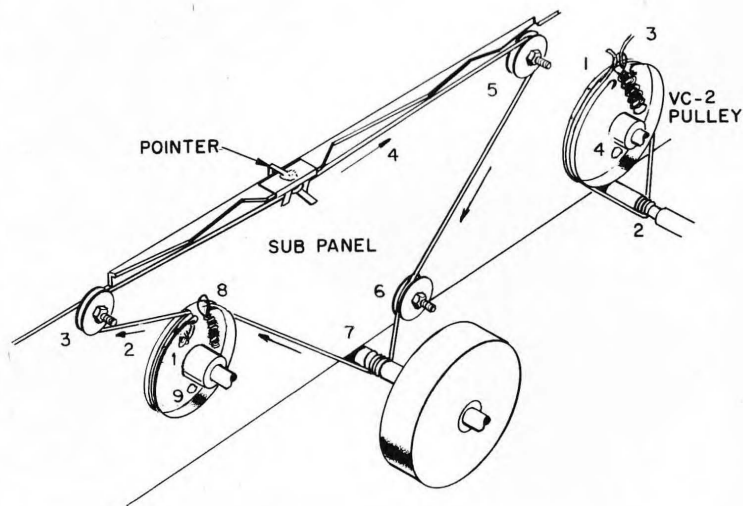

FIGURE 14.
### SEE FIGURE 14.
1. Loosen the set screws on the pulley and position it so the opening is as shown. Now rotate the shaft of VC-2 so the plates are half-open (plates to your left as you view the chassis as shown in Figure 14). Tighten the set screws so the pulley and capacitor shaft remain as required.